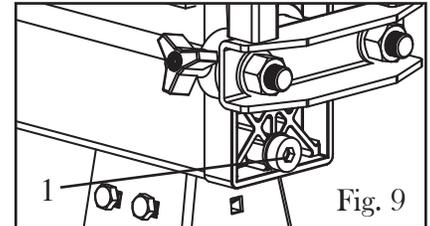

Fig. 9
2. Loosen the fluid drain knob (Fig. 9 - 1) and remove it. Be prepared for hydraulic fluid to flow out.
7. Replace the fluid drain knob (Fig. 9 - 1) and tighten securely. Return the log splitter to horizontal position.